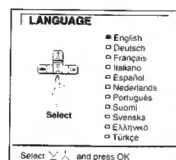

Fig. 1
- Press the MENU button. The LANGUAGE menu appears. (See Fig. 1)